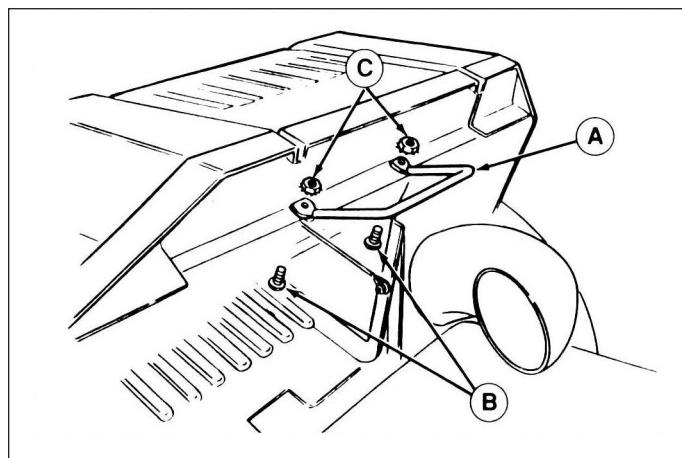

**Figure 15.**
3. Reinstall grass catcher cover (A, figure 15) to support (B) and secure with clevis pins (C) and clips (D).